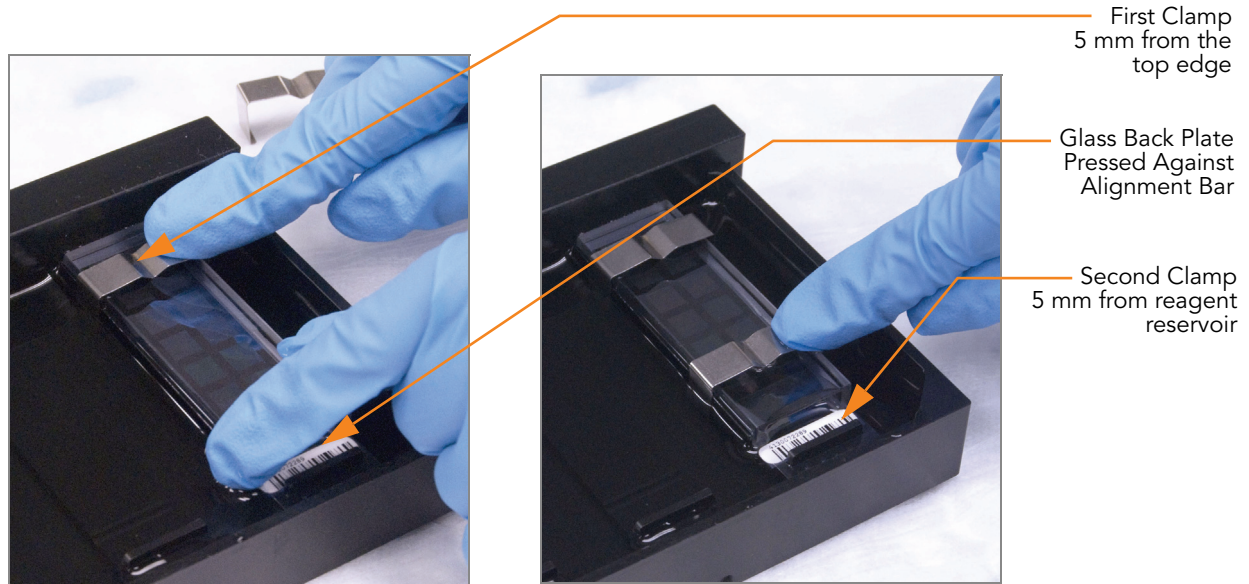

Figure 168 Securing Flow-Through Chamber Assembly with Metal Clamps
8. Attach the metal clamps to the Flow-Through Chambers as follows (Figure 168):